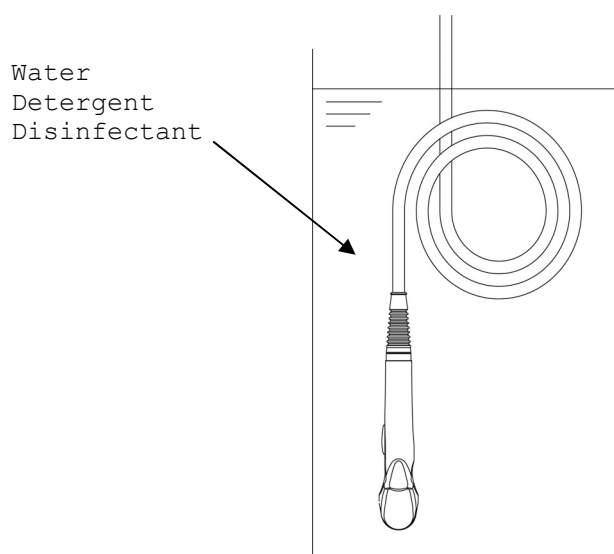

Fig. 3 Immersion of the probe
- 2) Immerse the immersible part of the probe without connector into the diluted detergent solution (see Fig. 3). Wipe the immersible part of the probe under the surface of the detergent solution with a soft cloth to remove all visible soil. Be sure that all grooves of the probe are implemented during the cleaning process.
- 5) Rinse the probe with running tap water for 1 minute. (alternatively: immerse the immersible part of the probe in a tray filled with deionized water/tap water (see Fig. 3) for 5 min.)
- 3) Immerse the immersible part of the probe into the disinfectant (see Fig. 3). Set a clock to insure the recommended contact time which is 5 minutes.
- 4) Rinse the immersible part of the probe with deionized water for 1 minute. (alternatively: immerse the immersible part of the probe in a tray filled with deionized water (see Fig. 3) for 5 min.)